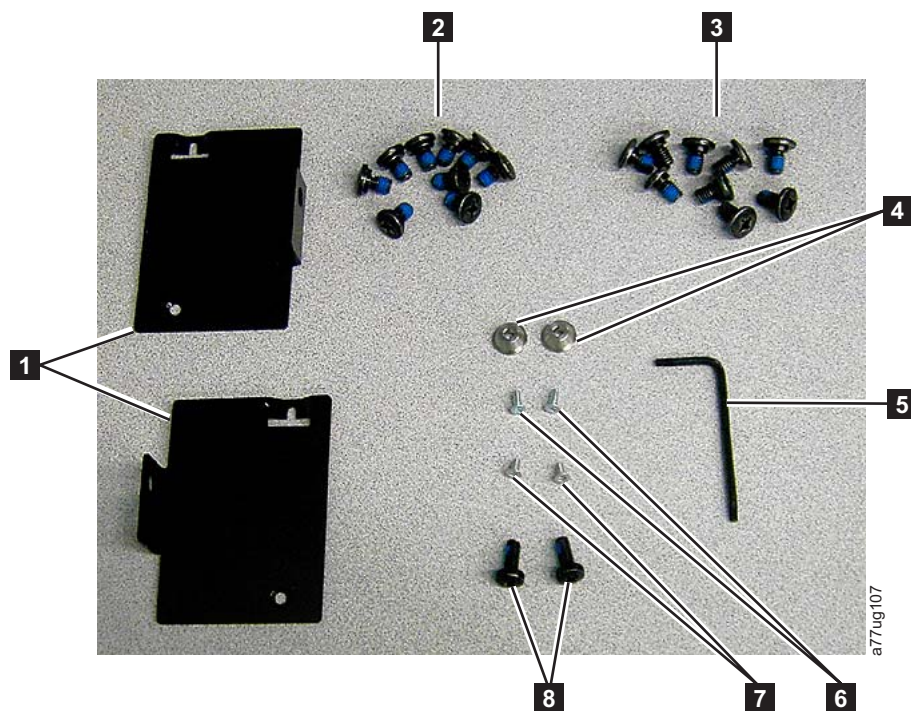

Figure 2-4. Rack Kit mounting hardware
1. Verify that your rack kit includes the following contents (see Figure 2-4 on page 2-6):